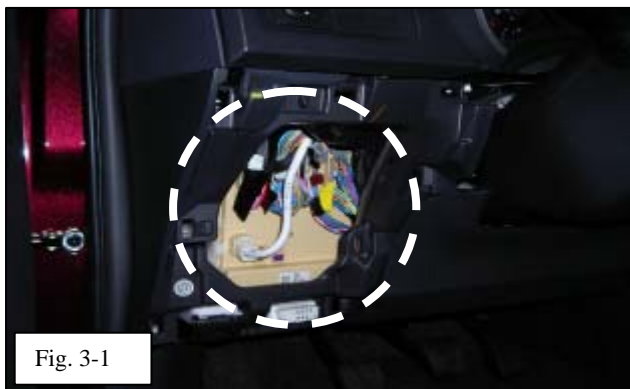

Fig. 3-1
- (a) Locate the junction block on the driver side lower IP area. (Fig. 3-1)